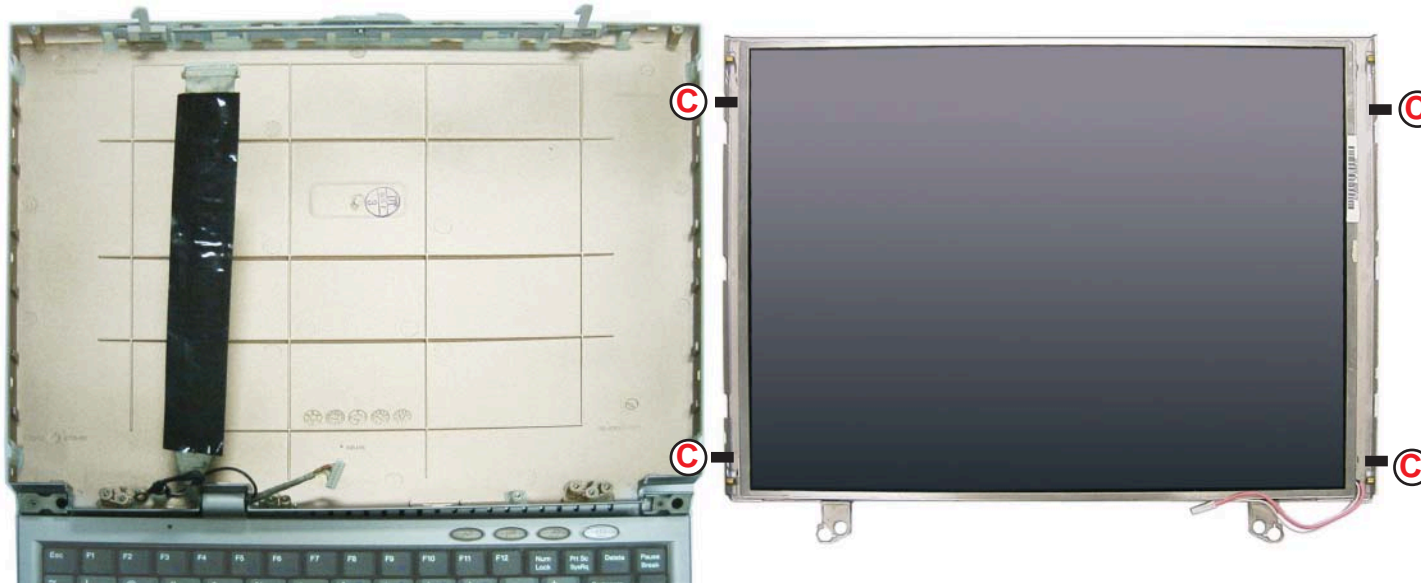

figure 2-25
2. Remove the screws (C) holding the LCD in the bracket (figure 2-25).